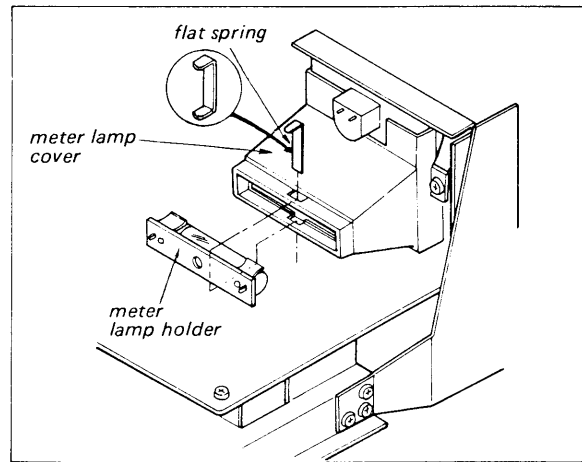

Fig. 2-14. Meter lamp replacement
1. Remove the flat spring as illustrated in Fig. 2-14, and then install the replacement lamp.